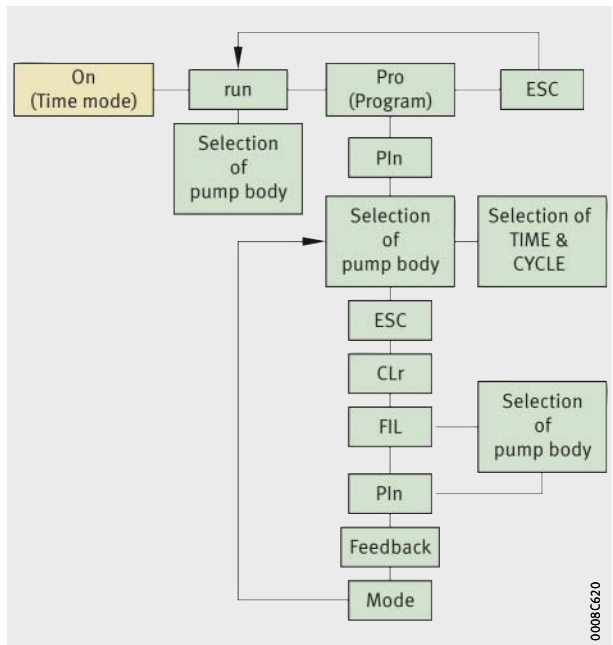

Figure 16
- time control (time mode) by means of the integrated microcontroller (default setting), *Figure 16*